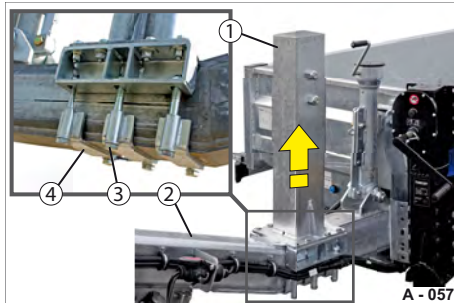

Fig. 61 Disassembling the mount
- ▶ Release the screw fitting (Fig. 61/3) on the drawbar (Fig. 61/2) - grip the clamp (Fig. 61/4) firmly.
- ▶ Lift the mount (Fig. 61/1) off the drawbar.